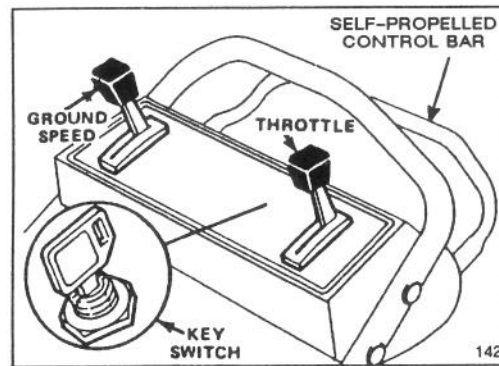
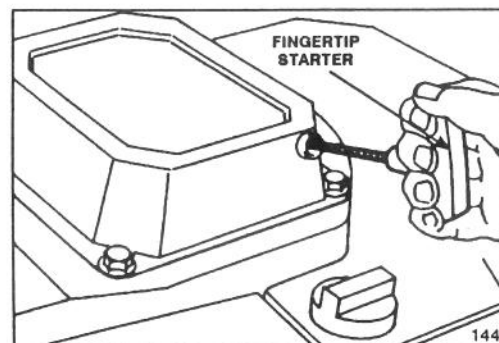

Figure 7
Figure 8
1. **CONTROLS** – Key switch (Key start models), throttle, ground speed control, and self-propelled control bar are on upper handle (Fig. 7). Fingertip starter is on top of engine (Fig. 8).
2. Push spark plug wire onto spark plug and on self-propelled models move ground speed control to "N" (Fig. 7).
4. **KEY-ELECTRIC STARTING** – Move throttle (Fig. 7) to CHOKE. Turn key (Fig. 7) to START and release when engine begins running. When engine starts, remove throttle from CHOKE and regulate as desired.
6. **STOPPING** (Fig. 7) – Release control bar to stop traction drive. Move ground speed control to "N" on self-propelled models. To stop engine, move throttle to OFF. Remove key from switch (key start model) and pull wire off spark plug if mower is unattended or not used.
3. Move throttle control to FAST (Fig. 7).